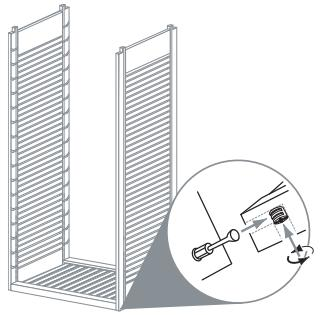

**FIG. 3.1**
2. Install cam bolt into locations at bottom of Tower sides until snug. (Fig 3.1)